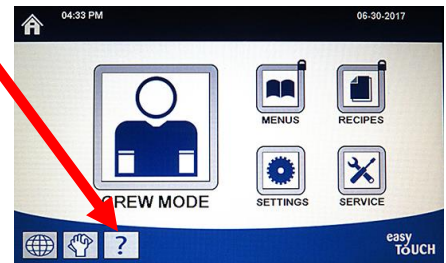

Figure 22
13. Press the **?** button (see Figure 22).